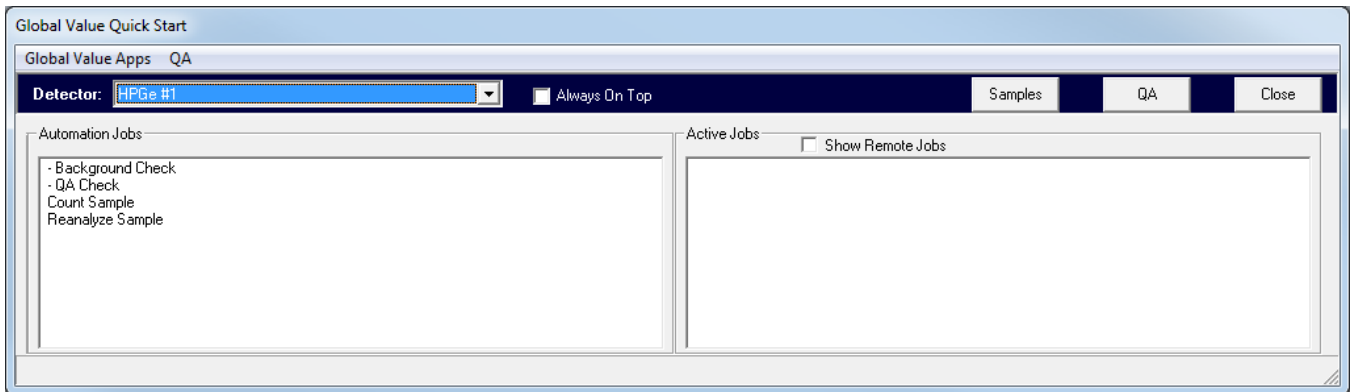

Figure A.1.3 Global Value Quick Start Header
Another situation where manual width settings are useful is when there are only a few automation Jobs in the main Job folder and no subfolders are necessary. In this case, the Automation Groups list can be hidden by setting the |MaxAutomationGroupsWidth| parameter to one (1). The other lists can either be left at the defaults or manually set to approximately half of the available twip width for a display similar to Figure A.1.3.